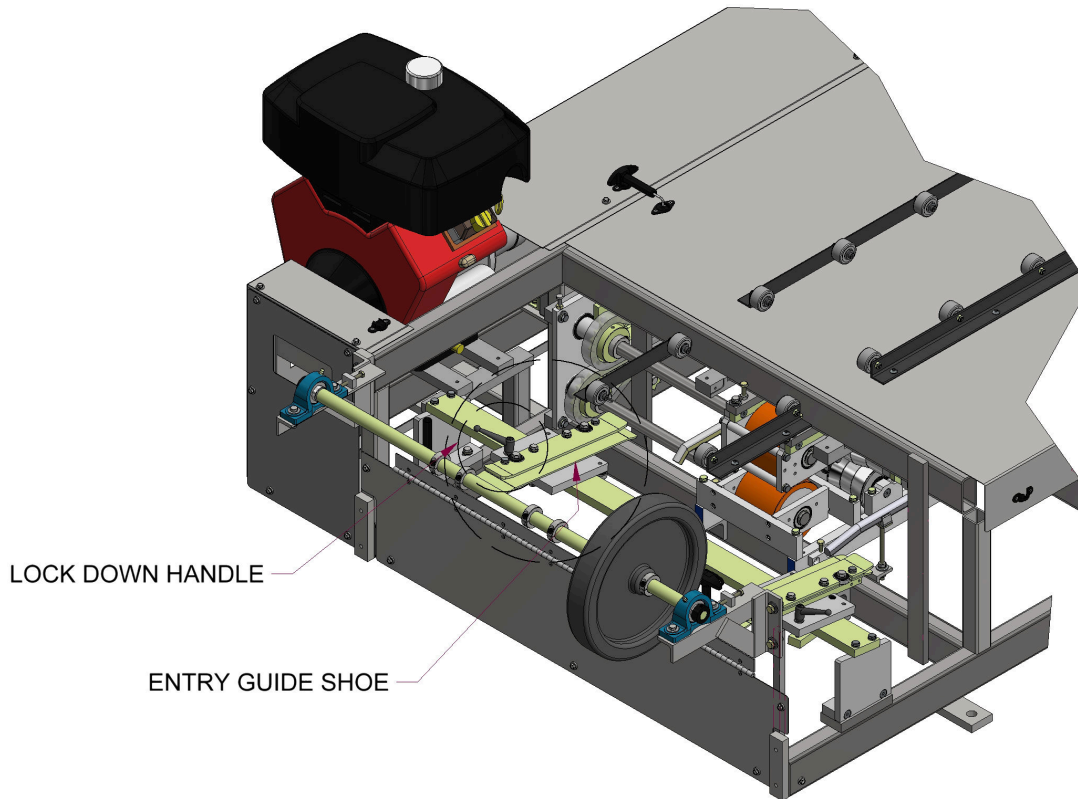

Figure 43: Entry Guide Shoe and Lock Down Handle
1. Loosen the Lock Down Handle on the left entry guide (Figure 43).